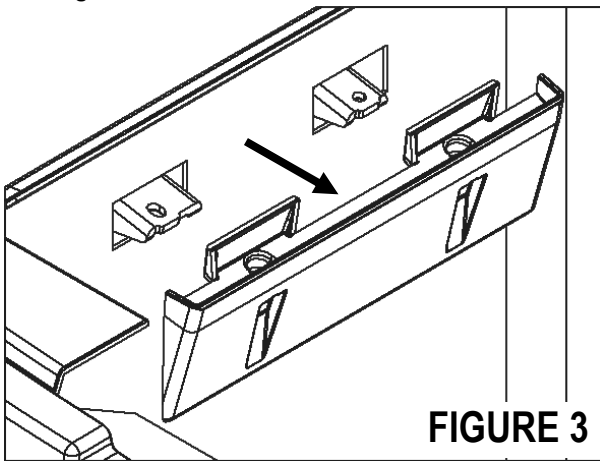

FIGURE 3
- Pull out the two Hanging Folder Supports straight out and set aside. you may use a plastic trim tool, but this step can be completed by hand. **See Figure 3.**